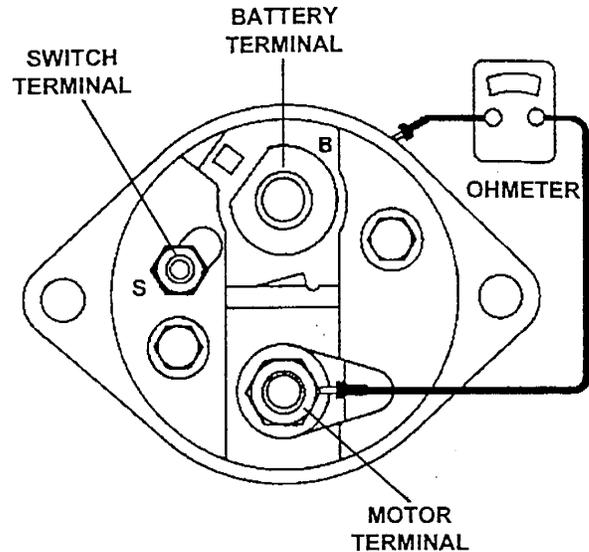

FIGURE 9. SOLENOID TERMINALS
### Component Electrical Testing (Figures 9 and 10)
1. Using a suitable ohmmeter, check the windings of the solenoid assembly (1) for continuity as follows:
- a. Check the resistance of the solenoid pull-in and hold-in windings in series by measuring the resistance between the motor terminal (see Figure 9) and the solenoid case. The resistance should be approximately 0.95 ohms for 12-volt starters and approximately 1.75 ohms for 24-volt starters.
2. Check the armature (13) as follows for shorts, opens or grounds using suitable test equipment and instruments (test lamp must be 110 volts or less).
3. Check frame and field assembly (19) for grounds or opens using a test lamp (110 volts max.) or ohmmeter, as follows: